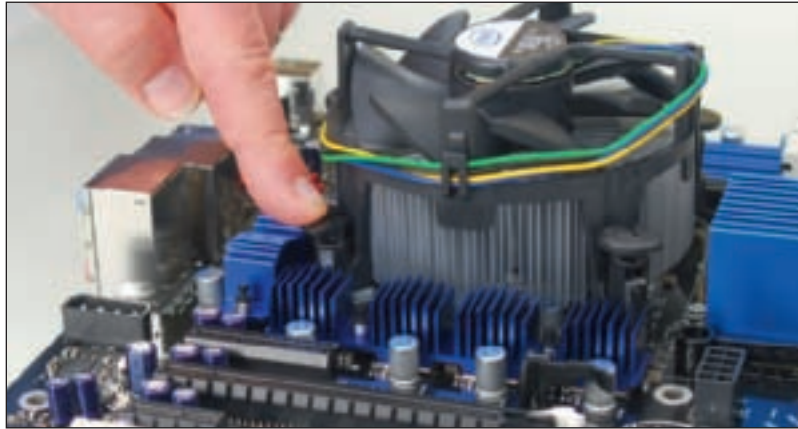

Figure 6-30 Push down on a locking pin to lock it into position
5. Push down on each locking pin until you hear it pop into the hole (see Figure 6-30). To help keep the cooler balanced and in position, push down two opposite pins and then push the remaining two pins in place. Using a flathead screwdriver, turn the locking pin clockwise to secure it. (Later, if you need to remove the cooler, turn each locking pin counterclockwise to release it from the hole.)